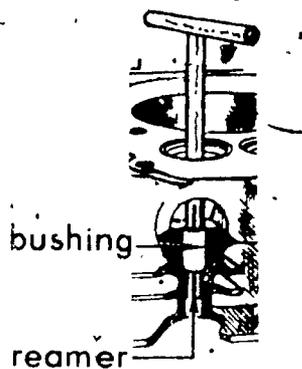

FIGURE 7
- 4) Ream to standard size (Figure 7)